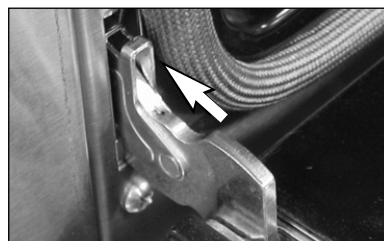

Fig. 23
4. Open the door completely and rotate the locks into the closed position (Fig. 23).